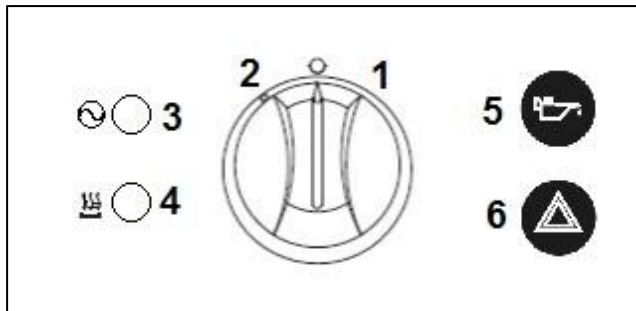

Figure 3 – E401X & E401FX Control panel
2.3.2 E401X & E401FX Fryer Control Panel (See Figure 3)